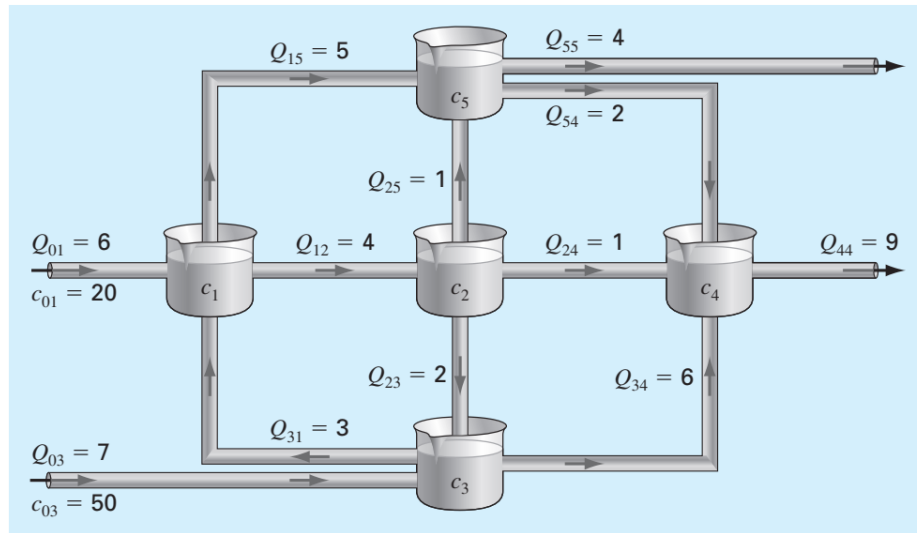

FIGURE P8.9
8.9 Five reactors linked by pipes are shown in Fig. P8.9. The rate of mass flow through each pipe is computed as the product of flow (Q) and concentration (c). At steady state, the mass flow into and out of each reactor must be equal. For example, for the first reactor, a *mass balance* can be written as
Write mass balances for the remaining reactors in Fig. P8.9 and express the equations in matrix form. Then use MATLAB to solve for the concentrations in each reactor.